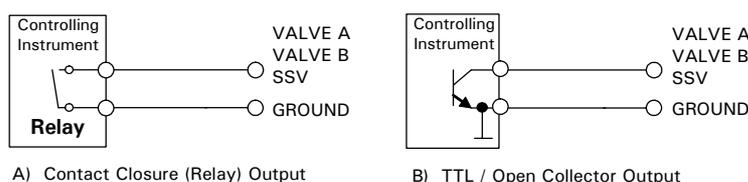

FIGURE 2-7 Different Output Configurations of the Controlling Instrument
- Connect two outputs of the controlling instrument to the Switchos input pins VALVE A and VALVE B of the INPUTS connector (FIGURE 2-7).
- Connect the common terminals or the ground terminals of the controlling instrument to the corresponding GROUND pins of the INPUTS connector (FIGURE 2-7).
- Connect the SSV pin and the corresponding GROUND in the same way to another output of the controlling instrument (FIGURE 2-7).